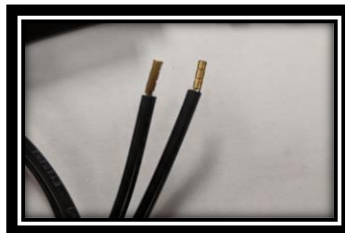

FIG 6.2
10. Refer to FIG 6.2, Inspect to assure crimp barrels are straight to wire. If barrels are removed, ensure wire stranding is twisted and straight to wire insulation. Ensure all conductor areas are kept clean and free of contamination.